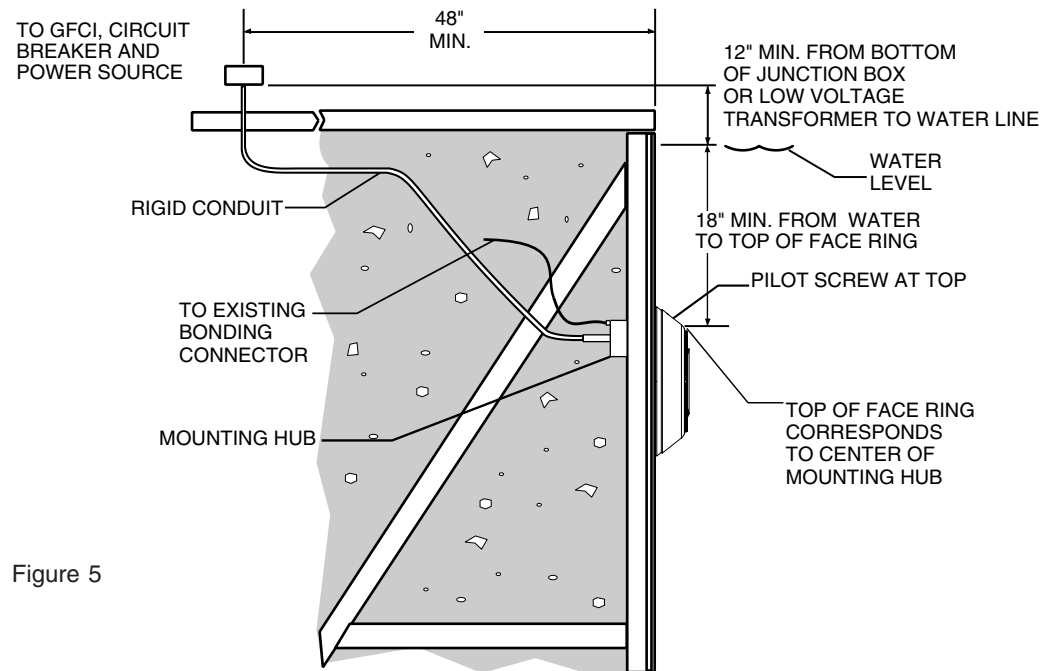

Figure 5
### A. The following are preparatory steps which must be completed by the electrician or qualified pool serviceman before replacing light fixture, see Figure 5 on page 8.
- b. The junction box, or the low voltage transformer for 12 volt models, is located at least 12 inches above water level and at least 48 inches from the edge of the pool, see Figure 5.
- c. The light fixture and all metal items within five (5) feet of the pool must be properly electrically bonded.
- d. The mounting bracket must be properly installed so that the top edge of the face ring of the Nicheless Light is at least 18 inches below the surface of the water in the pool, see Figure 5.
- e. The mounting bracket and mounting hub must be properly electrically bonded and grounded via the No. 8 AWG ground connector located at the rear of the Nicheless fixture, see Figure 5.